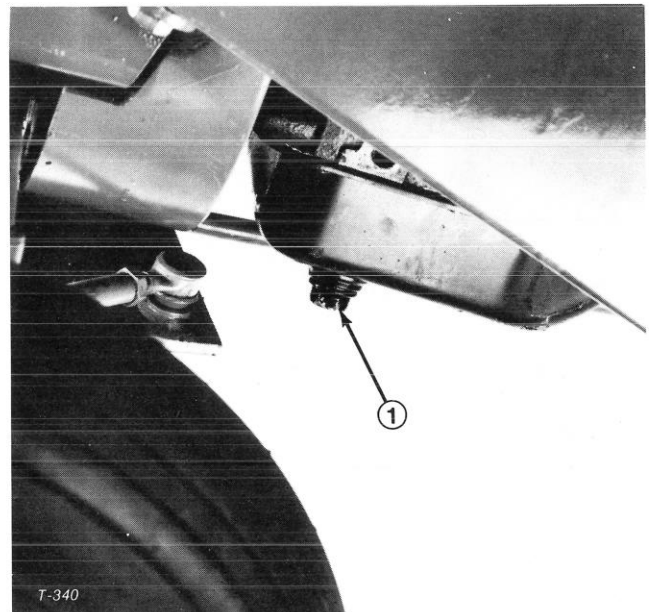

Figure 45
2. Disengage hood latch and open the hood. Set drain pan under the housing and in line with drain plug (Fig. 45).